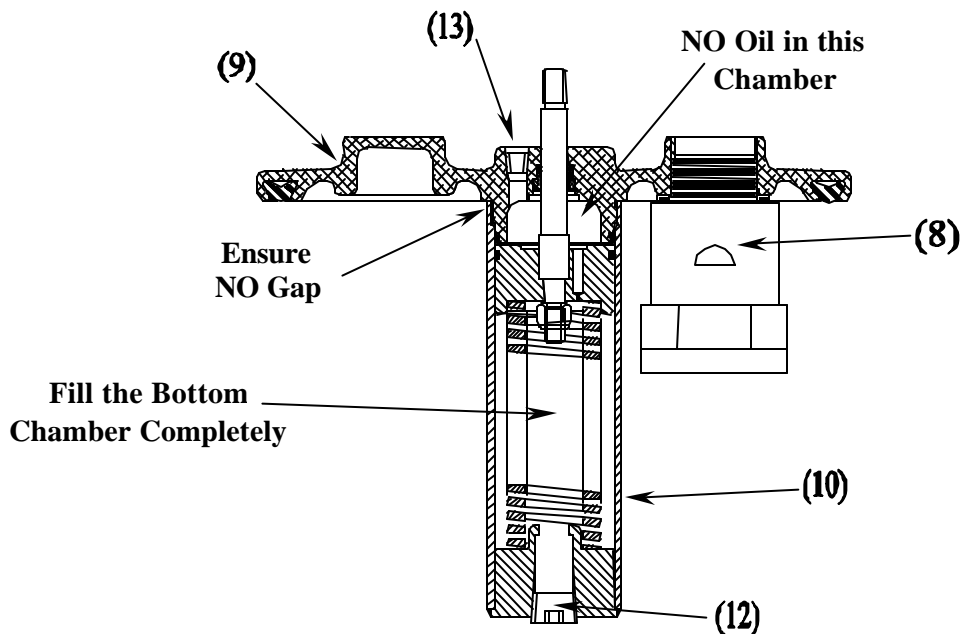

Figure 15
- 5.4. Slowly screw the *Cover (9)* onto the *Cylinder (10)*. Care should be taken not to damage the threads of the cylinder or cover. Beware of cross threading. Ensure that the cover is screwed completely down to the cylinder so there is **NO** gap. See figure 15.
6. Re-filling the hydraulic oil: Refer to figure 15.